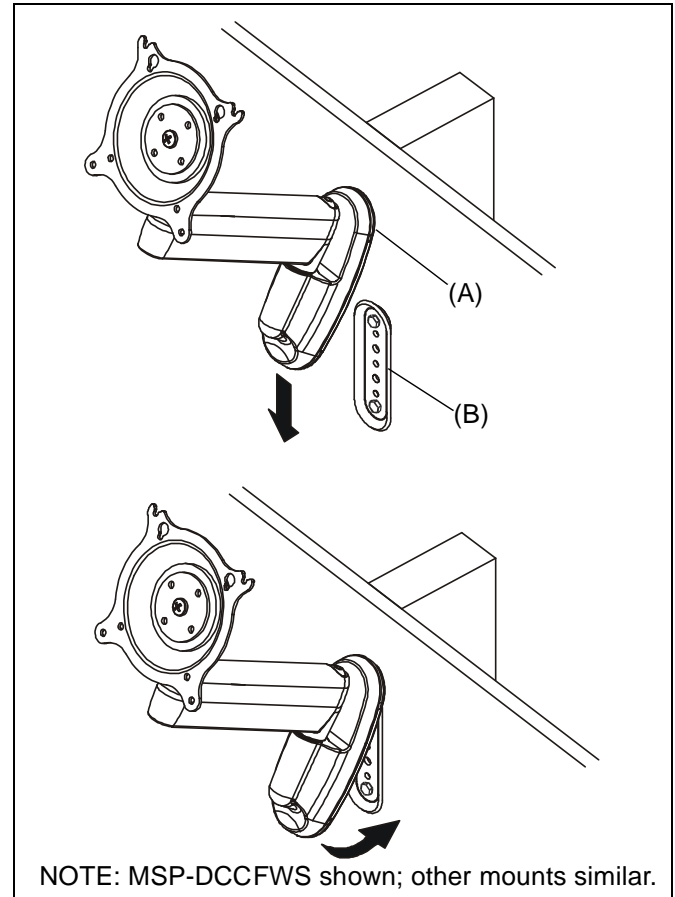

Figure 2
4. Insert top of mount (A) over lip on top of wall plate (B) (See Figure 2) Swing mount (A) down flush against wall.